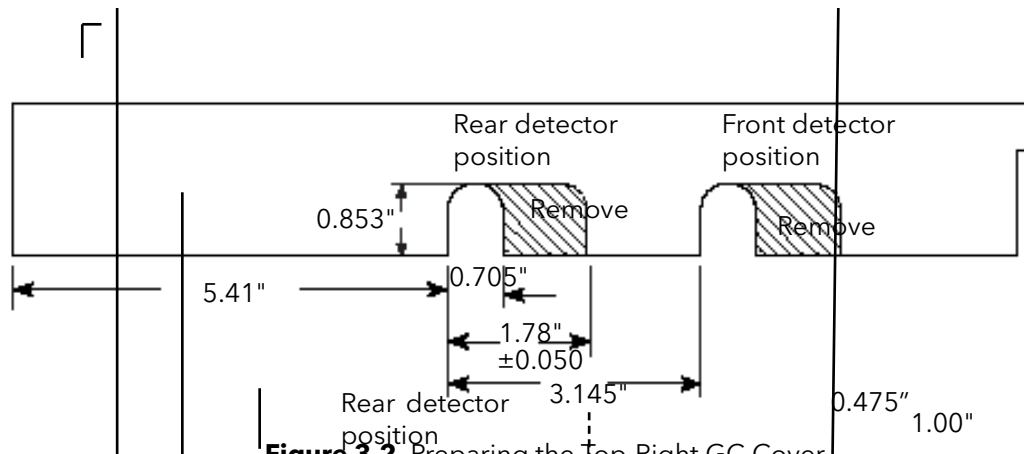

Figure 3.2. Preparing the Top-Right GC Cover
- Cut a hole in the top-right GC cover (Figure 3.2).